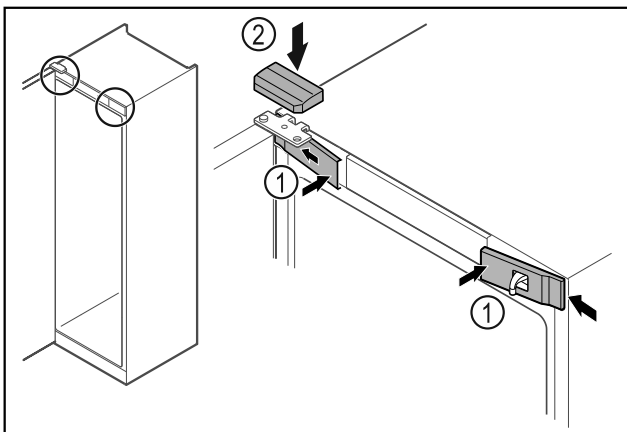

Fig. 42
- ▶ Hook in the front covers Fig. 42 (1) on the side and snap them into place.
- ▶ Snap on the top cover Fig. 42 (2) from above.